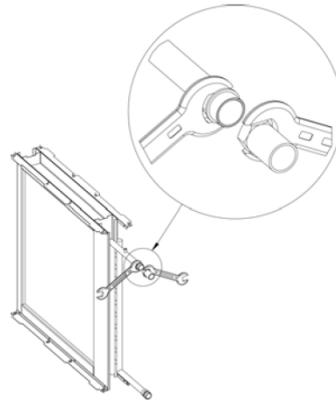

Figure 3 – Coil header connection method
*TO AVOID DAMAGING THE COIL CONNECTIONS AT COIL HEADER, IT IS ESSENTIAL TO HOLD THE HEXAGONAL CONNECTOR WITH TOOLS WHILST APPLYING COUNTER FORCE TO TIGHTEN THE JOINT. (SEE FIGURE 3)*